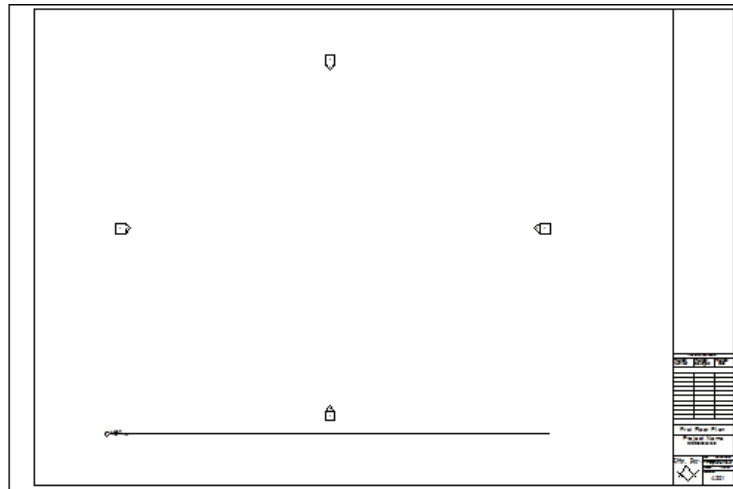

Figure 1–55
11. Open this sheet view. Drag the associated **Level 1** floor plan view onto the sheet, as shown in Figure 1–55.